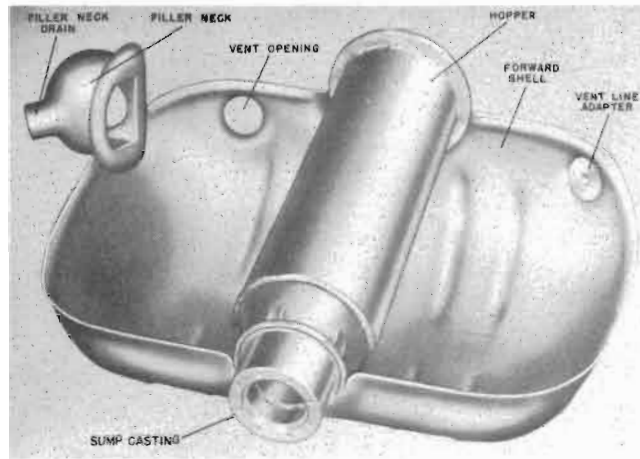

Figure 155 — Oil Tank
(1) DESCRIPTION.—(See figure 155.)—The oil tank consists of front and rear halves of formed aluminum sheet welded together. A cylindrical hopper, providing accelerated warming of the oil, is installed in the tank and has a capacity of approximately 1.5 U.S. (1.2 Imperial) gallons. A sump and standpipe are located at the bottom of the hopper to which is attached the oil line going to the engine attachment. Access to the bottom of the hopper is gained by removing the oil line and eight nuts securing the standpipe to the sump. When reinstalling the standpipe, seal the gasket with sealing compound, AAF Specification No. 3597. The oil tank has a service capacity of 10.2 U.S. (8.5 Imperial) gallons, plus a foaming space of 2 U.S. (1.7 Imperial) gallons.